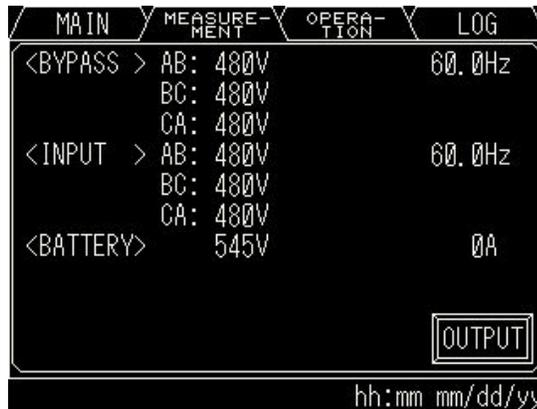
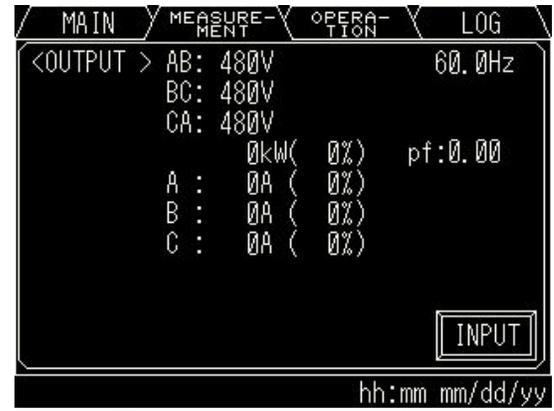

Figure 4-6 Input values
Figure 4-8 Output values
B) MEASUREMENT MENU (Figure 4-6 to Figure 4-8)